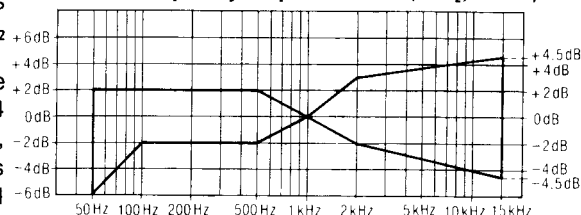

Fig. 14
8. Change test tape to CrO₂ reference blank test tape (QZZCRX), and record 1kHz, 50Hz, 100Hz, 200Hz, 500Hz, 4kHz, 8kHz, 10kHz and 15kHz signals. Then, playback the signals and check if the curve is within the limits shown in the overall frequency response chart for CrO₂ tapes (fig. 14).
9. Change test tape to metal reference blank test tape (QZZCRZ), and record 1kHz, 50Hz, 100Hz, 200Hz, 500Hz, 4kHz, 8kHz, 10kHz, 12.5kHz and 15kHz signals. Then, playback the signals and check if the curve is within the limits shown in the overall frequency response chart for metal tapes (fig. 14).